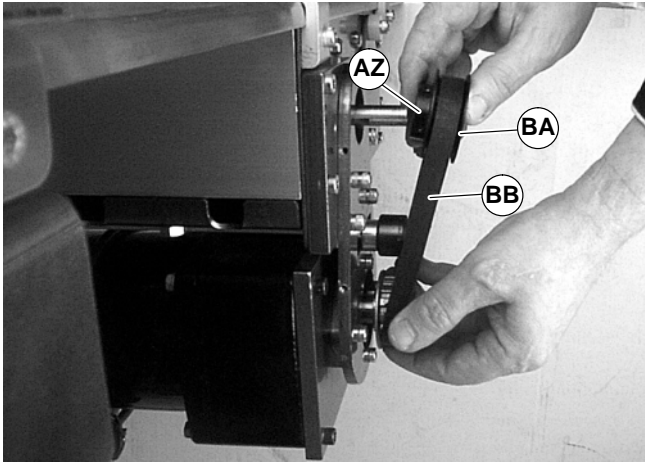

Figure 19
NOTE: If the timing belt does not slide over the pulley flange, loosen the driven pulley set screws (AZ of Figure 19) and remove the pulley (BA) with the belt (BB).